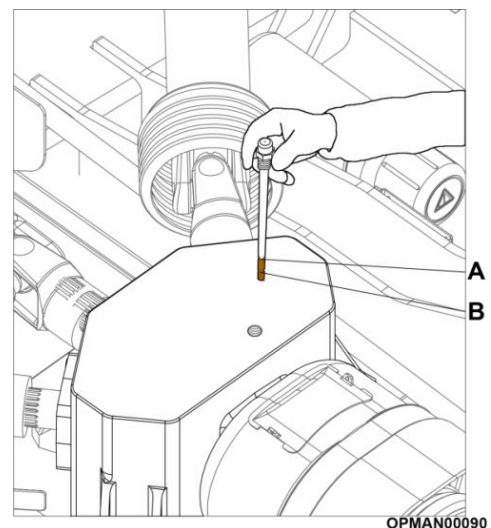

Figure 5.2 – Multicut Oil Dipstick Marks
There are grooves marked in the dipstick with Figure 5.2 (A) showing the upper level and Figure 5.2 (B) showing the lower level.
The gearbox should not require additional lubricant unless the box is cracked or a seal is leaking. It is recommended that the oil level is **checked every day before operation** and additional oil added if it's required to bring it up to the upper level mark Figure 5.2 (A) **before proceeding to use the machine**. The splitter gearbox guard has a cut-out in order to check the oil level without having to open the guard.